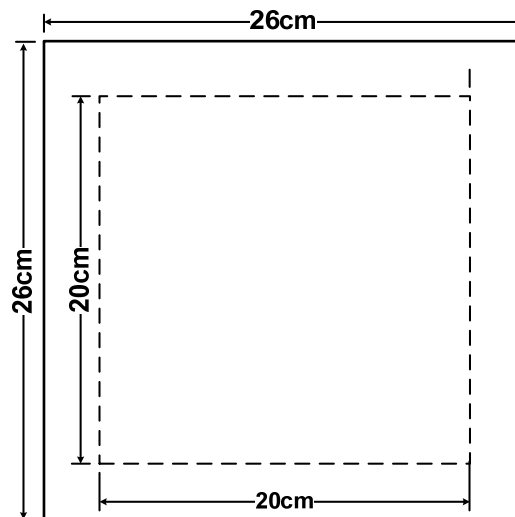

Figure 2. The allowable site area of the model.
4.2.2 The allowable site area is the 20 cm × 20 cm square shown as the dotted lines in Figure 2. The projection of the entire model onto the base board must be within this 20 cm × 20 cm square.